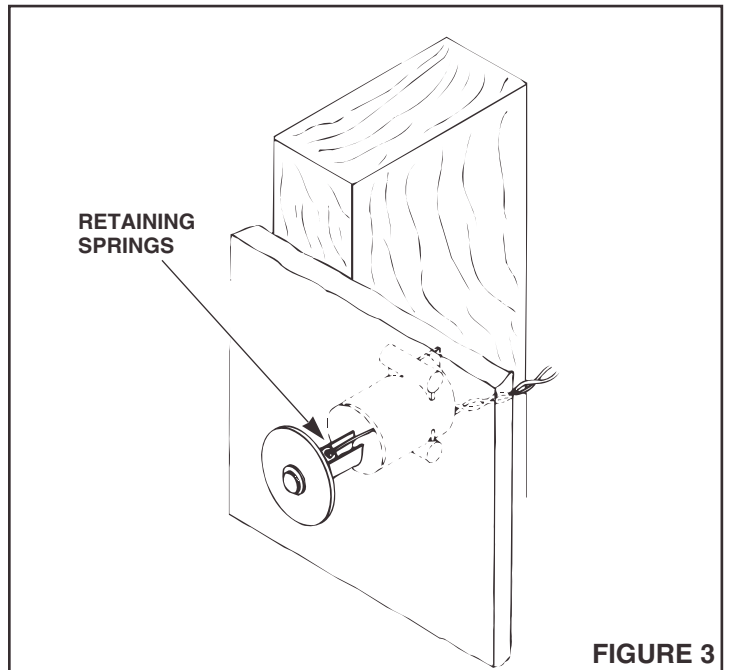

FIGURE 3
5. Refer to Figure 3. Strip $\frac{1}{4}$ " insulation from wires. Push wire ends into grooves behind terminal plates and tighten screws. Position pushbutton in hole and mount escutcheon with the screws provided.